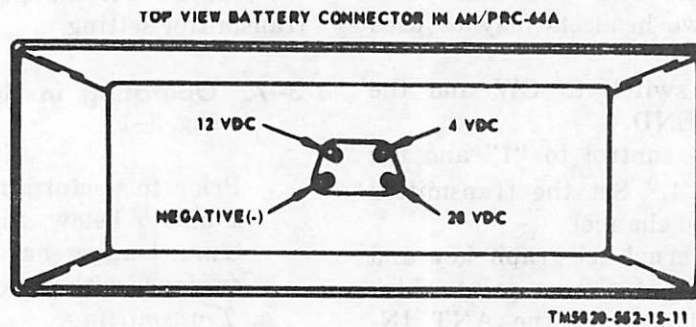

Figure 3-3. Connection diagram, external power sources.
- a. Under emergency conditions when no battery is available, direct current (dc) sources of power may be used. Figure 3-3 shows connections and necessary power required. A socket from a discarded battery will make a suitable connector.